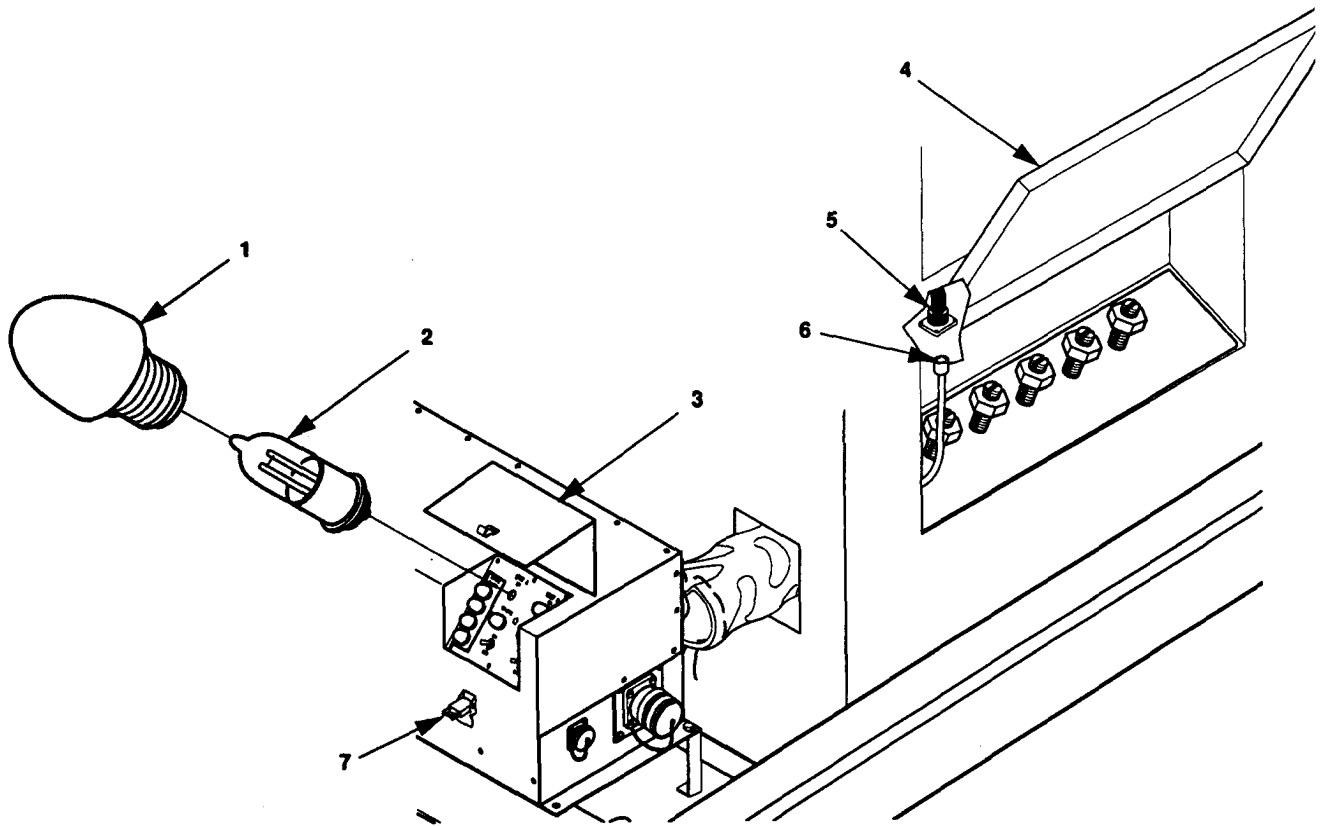

Figure 3-5. Indicator Lamps and P1 Connector Maintenance
1. Release clamping catch (7, figure 3-5) and open control panel access cover (3).
2. Grip and unscrew lens cap (1).
3. Remove lamp (2) by grasping the base and pulling outward.
1. Open access panel (4, Figure 3-5) to unit A generator load terminals.
2. Connect P1 (6) to J16 (5) inside generator set.